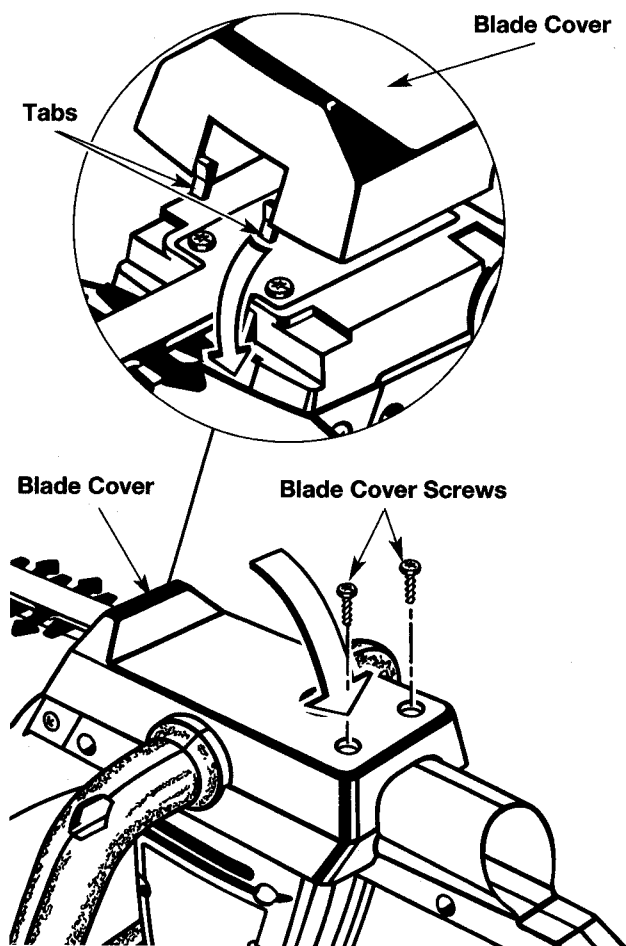

Fig. 13
9. Replace blade cover. Reposition tabs on front of blade cover under blade guard and lower rear of blade cover into place (Fig. 13).
10. Replace blade cover screws (Fig. 13).